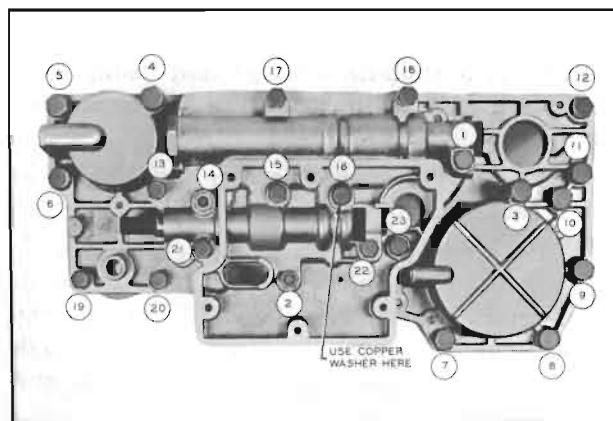

Figure 5-107—Valve and Servo Body Bolt Tightening Sequence
4. Install various length bolts with lock-washers according to depth of holes through valve and servo bodies. *Use copper washer on bolt indicated in Figure 5-107.*
5. Tighten all bolts to 5 ft. lbs. torque in the numerical sequence shown in Figure 5-107. Repeating the same sequence, tighten all  $\frac{1}{4}$ " bolts and nuts to 11-15 ft. lbs. torque and all  $\frac{5}{16}$ " bolts to 15-20 ft. lbs. While tightening bolts and nuts adjacent to the shift control valve, operate the valve to make certain that it is not binding—it may be necessary to adjust some bolts to low limit on torque to prevent valve binding.